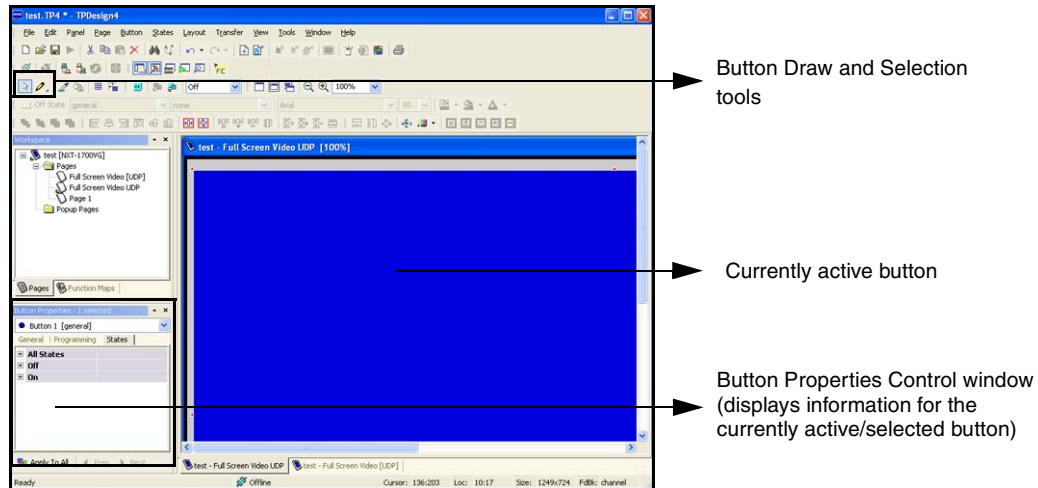

FIG. 133 Button Properties tab
8. Press the **Selection Tool** (CTRL+L) to grab the new button and stretch it to fill a desired area of the page. For our procedures, we stretched the new button to fill the entire available are of the newly created page (FIG. 133).
9. With the button currently selected and active, navigate to the left section of the Workspace and find the **Button Properties** Control window (FIG. 133).